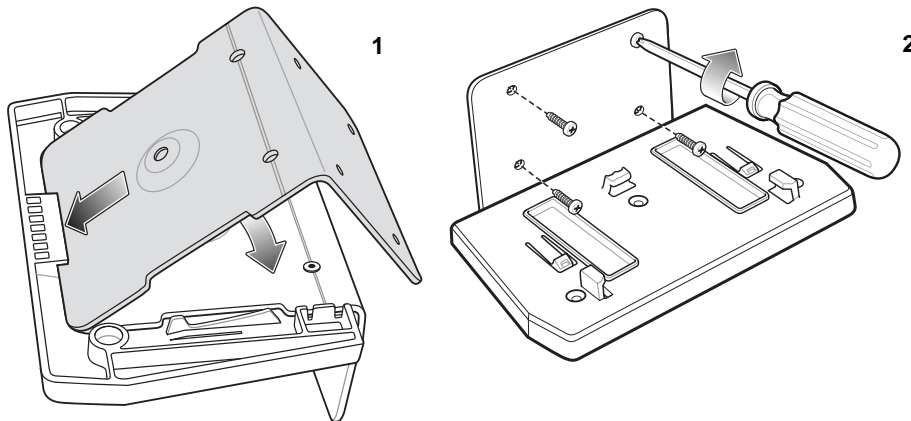

Figure 1-11 Wall Mounting Diagram - Mounting the Bracket
4. Figure 1-11 - 1: Insert the back metal bracket under the plastic hook in the base plate and set in place so that the thumb screw holes align.
6. *Figure 1-11* - 2: Insert four screws (provided) through the holes and fasten to the mounting surface.